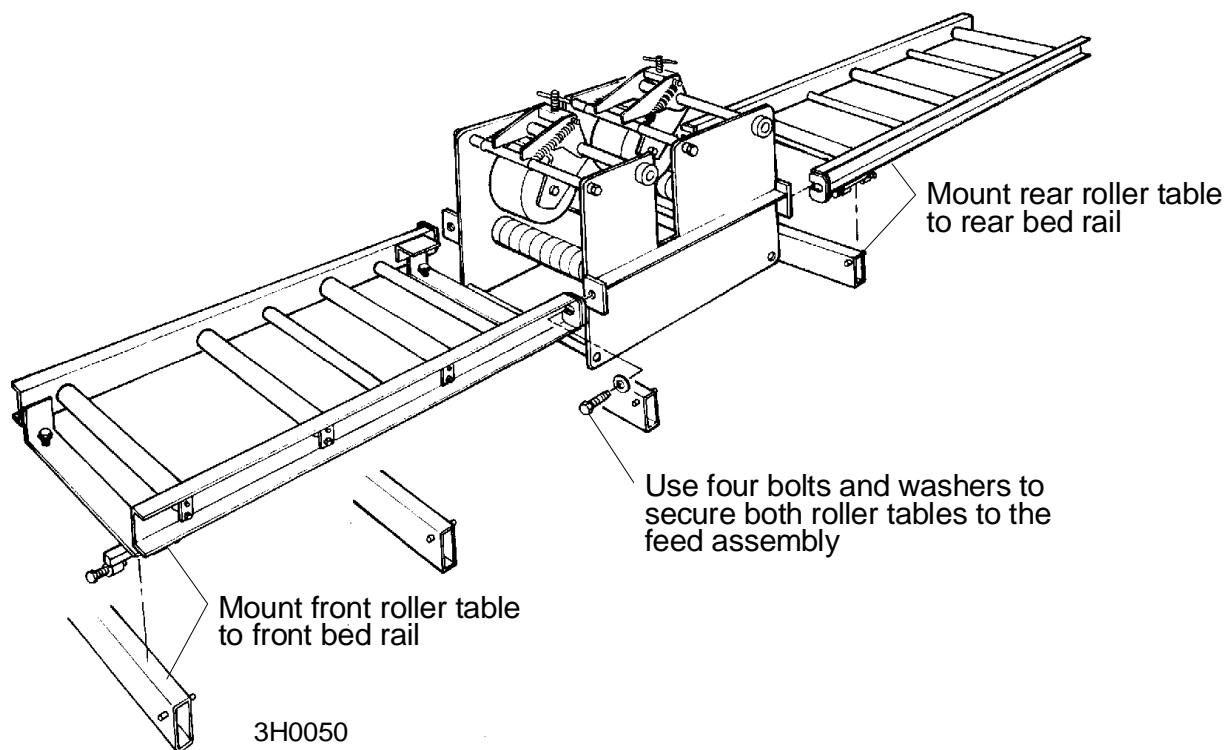

FIG. 1-10
See Figure 1-10. The two roller table assemblies each have mounting brackets on the bottom.
6. Make sure the two support adjustment bolts on the front table assembly do not touch the bed rails. Adjust if necessary. **See Figure 1-10**